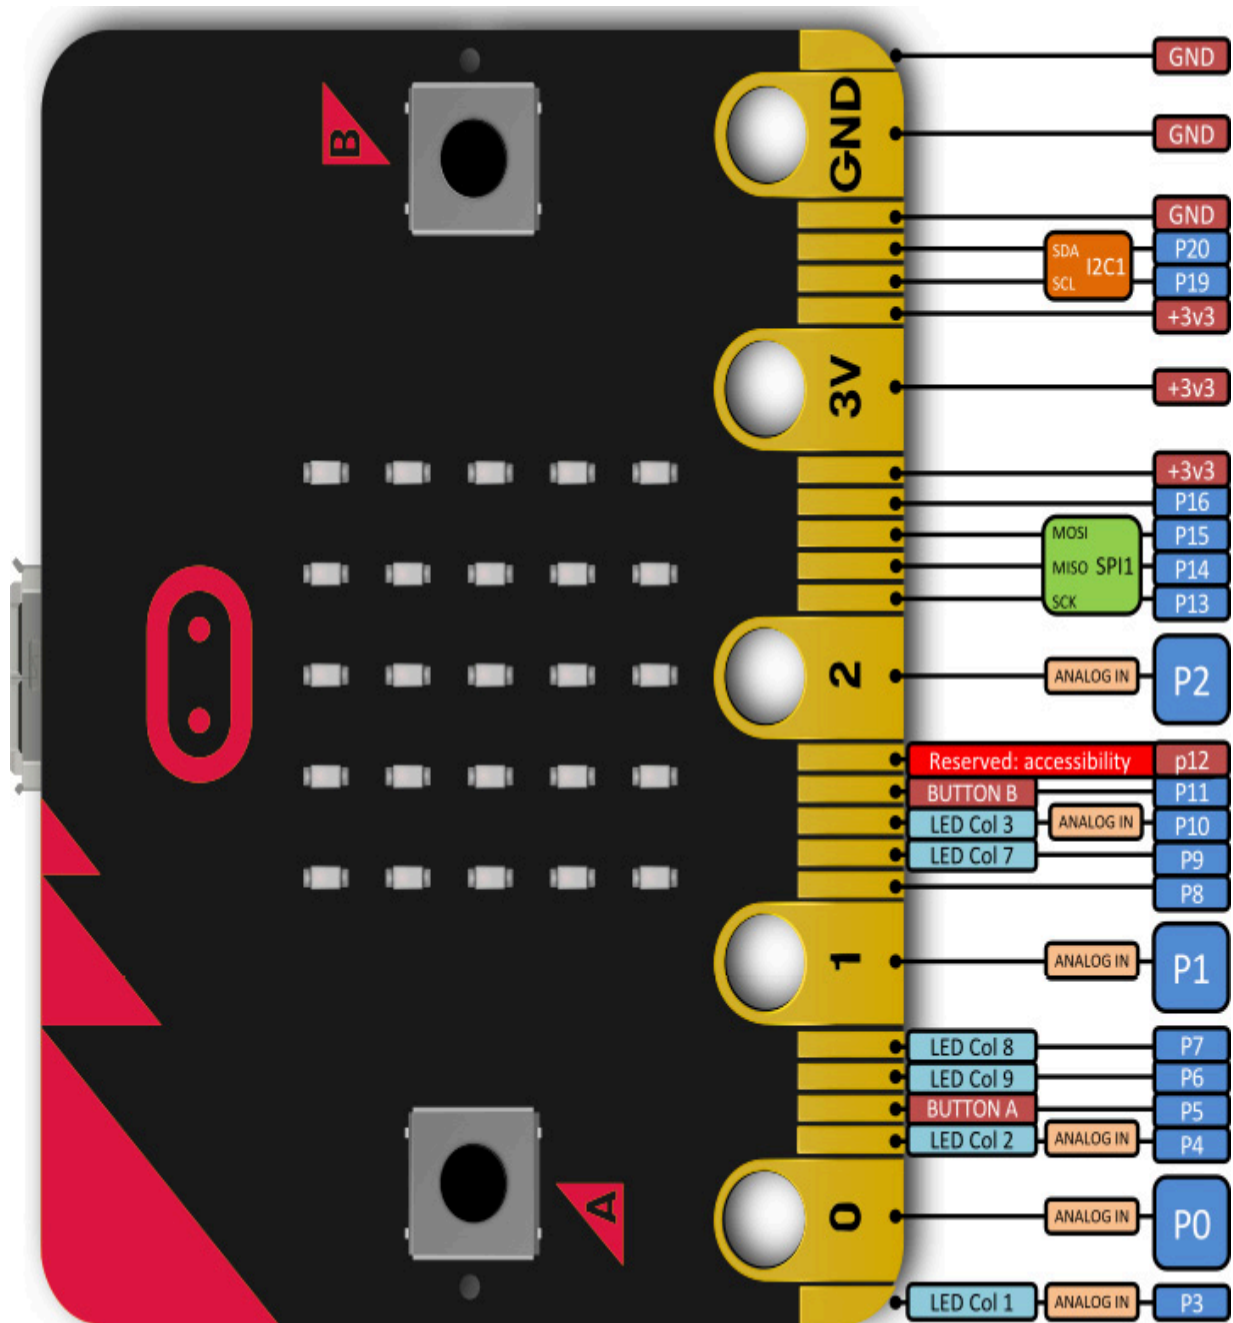

Figure 9.1 – Analog pins in Micro:bit (courtesy: <https://microbit-micropython.readthedocs.io/en/v1.0.1/pin.html>)
Besides having onboard sensors, micro: bit also facilitates integrating sensors using pins. The sensors can be connected as an input device (i.e., to feed the data into the Micro:bit – for example, a temperature sensor) or as an output device (i.e., the data or command coming from the Micro:bit to affect the outside world, such as operating a motor). The analog signal plays a vital role in handling the sensors. In *Figure 9.1*, the Micro:bit board is presented, showing the analog pins – that is, P0, P1, P2, P4, and P10. These pins are used to handle analog inputs:
or 0 (high or low). The pin selection is based on understanding the type of sensors used for an application. If the sensor is analog, then it needs to be connected through analog pins, and if it is digital, then it relates to digital pins, as mentioned in *Figure 9.1*.
- `pin.read_analog()`: Reads the value coming from the sensor connected to a respective pin. For example, `pin0.read_analog()` represents reading the value of a sensor connected to pin number 0 – that is, P0 as mentioned in *Figure 9.1*